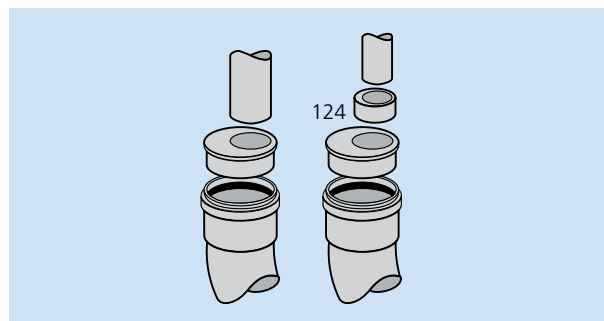

Fig. 26
- **82mm Soil Pipe to 110mm Underground Pipe (Fig. 26)**